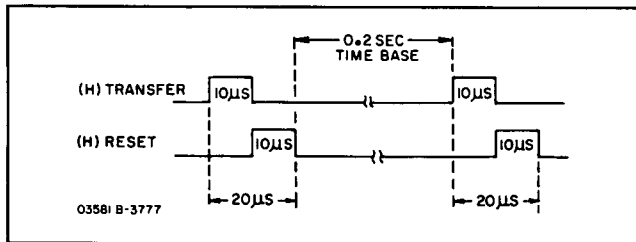

Figure 4-11. Transfer and Reset Signals.
Divide-By-Two Counter in the Counter/Display Section. The Time Base Generator is driven by the 100 kHz reference signal from the Crystal Oscillator on the VTO Assembly. The purpose of the Time Base Generator is to produce three timing signals that synchronize the operations of the Counter/Display circuits. These timing signals are: (H) Transfer, (H)Reset and 3 kHz Strobe. The Transfer and Reset signals provide a 0.2 second time base period as shown in Figure 4-11. The 3 kHz Strobe is an independent output generated by a free running multivibrator. With a strobe frequency of 3 kHz, 600 strobe pulses are generated during each 0.2 second time base period. The strobe generator is reset by the Transfer pulse so that the Strobe output remains low during the 20 μ sec period in which the transfer and reset operations take place.